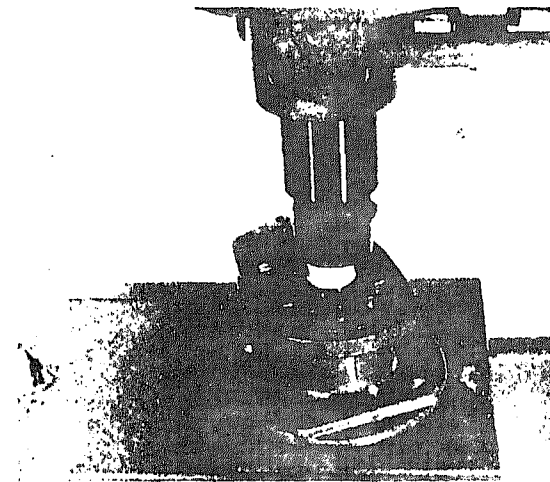

Fig. 506-10 Installing drive cover oil seal
2. Press first oil seal into drive cover with lip toward inside of pump, and press second oil seal into drive cover with sealing lip toward inside of fuel pump. Seals must be spaced so the "telltale" hole is not covered. Fig. 506-10.